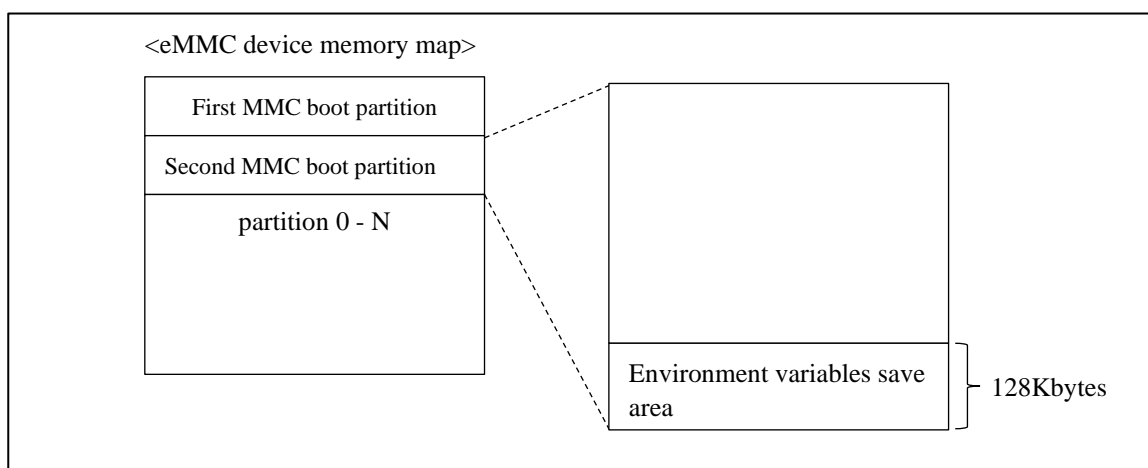

Figure 4-12 Memory map of eMMC (R-Car H3/M3/M3N/E3/D3)
- Setup environment. Read the saved environment variables from eMMC Flash. If read environment variables are illegal then use the default environment. Please refer to Figure 4-12 for eMMC memory map